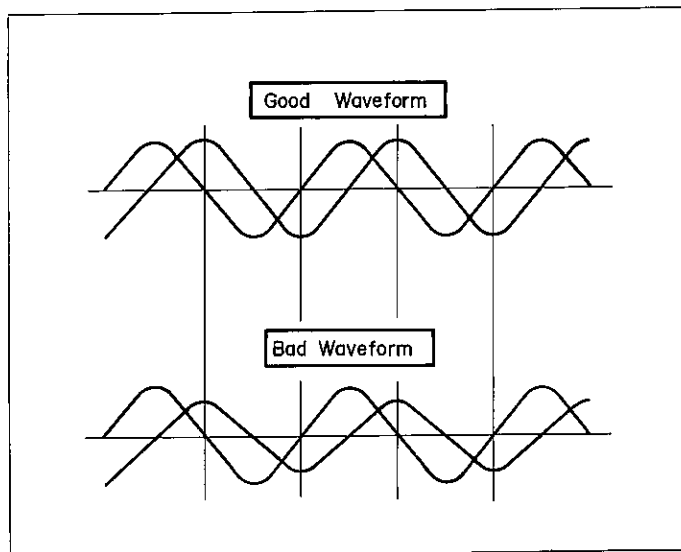

Figure 42
1. Connect one end of a dual-beam synchroscope, on the control PWB, between pin (13) (GND) and pin (8) and another between pin (13) (GND) and pin (7).
2. Turn the variable resistors VR2 and VR3 to generate two waveforms and adjust so that these two will have symmetry verticalit, as shown in Figure 42.